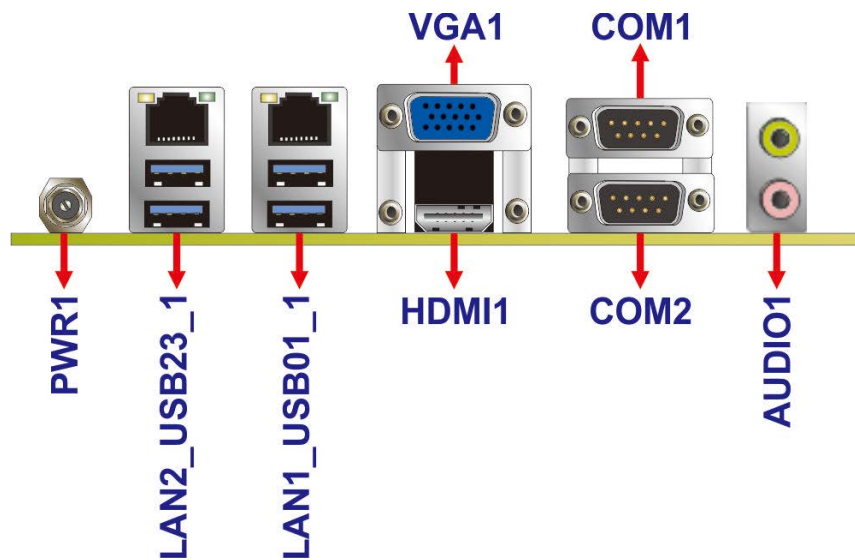

Figure 3-28: External Peripheral Interface Connector
Figure 3-28 shows the KINO-DAL external peripheral interface connector (EPIC) panel. The EPIC panel consists of the following:
CN Location:	See Figure 3-28
- CN Location:** See **Figure 3-28**
- CN Location: See **Figure 3-28**
See **Figure 3-28**